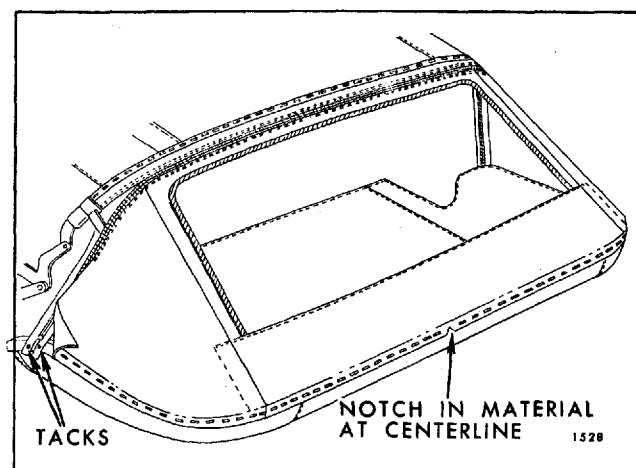
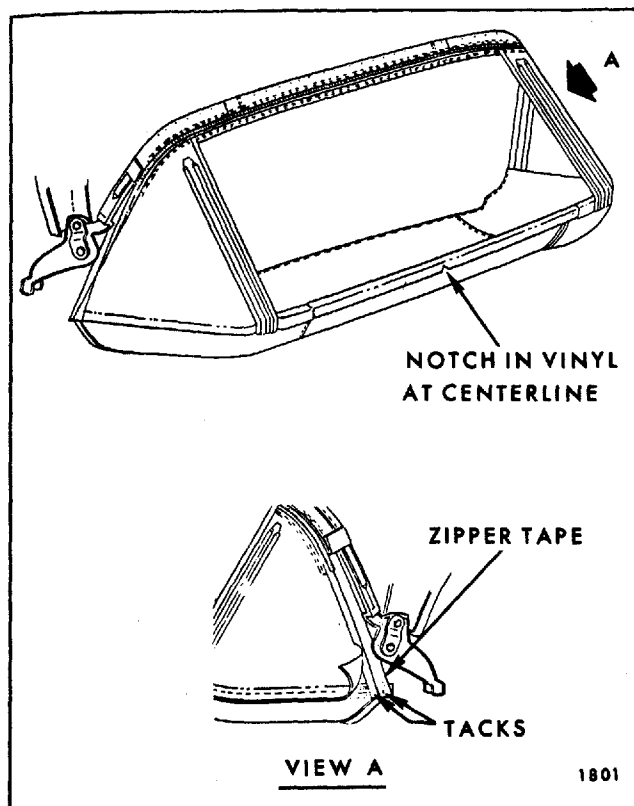

Fig. 6-17—Back Curtain Installation
Fig. 6-18—Back Curtain Installation
NOTE: Notch in back curtain material at lower edge indicates centerline of back curtain assembly (Fig. 6-17). In addition, back curtain lower
8. Tack curtain to rear and rear quarter trim sticks (Fig. 6-17). On "A & Z" Body Styles only, tack zipper tape on right side to forward edge of rear quarter trim stick (Fig. 6-18).